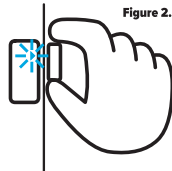

Figure 2.
2. Hold the sensor up in the desired location and temporarily tape in place. Now hold the magnet up to its desired location. If the magnet is within range to trigger the sensor, the VPD's Bluefield™ LED arrow will glow, ensuring proper placement. **See figure 2.**